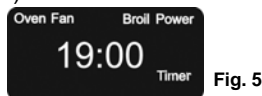

Fig. 5
- Press timer/temp button for the timer. Press the increase/decrease button. Each time the button is pressed the time will change in one (1) minute increments. Set at 15 minutes for preheating. If you hold down the increase or decrease button, the increments will change rapidly. Press the start button. (Fig. 5)